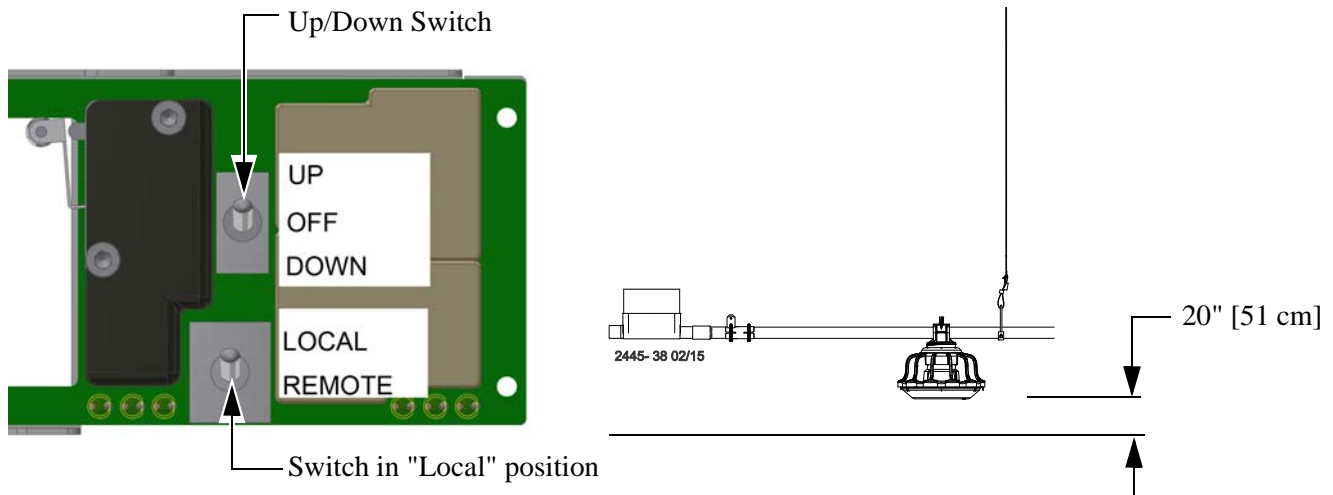

Figure 19. Down Limit Switch
2. Use the up/down switch up to adjust the Feeders to approximately 20" [51 cm] off the floor (See Figure 19)..